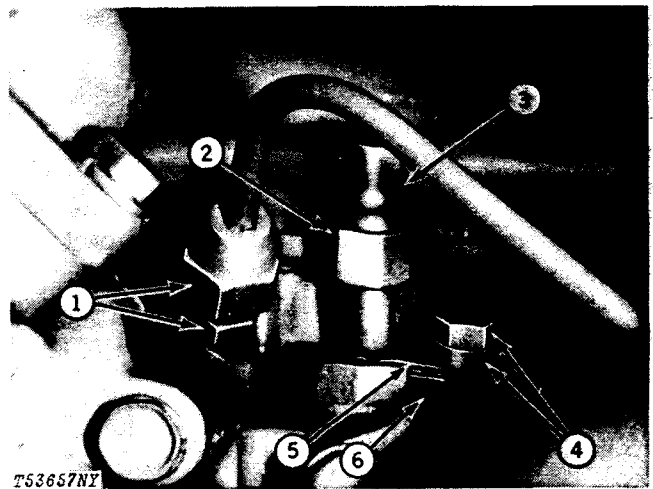

Fig. 29-Injection Nozzle Removal
Disconnect nozzle from fuel injection line at nozzle inlet connector (1, Fig. 29) and unscrew hex fitting (2) from leak off connector (3).